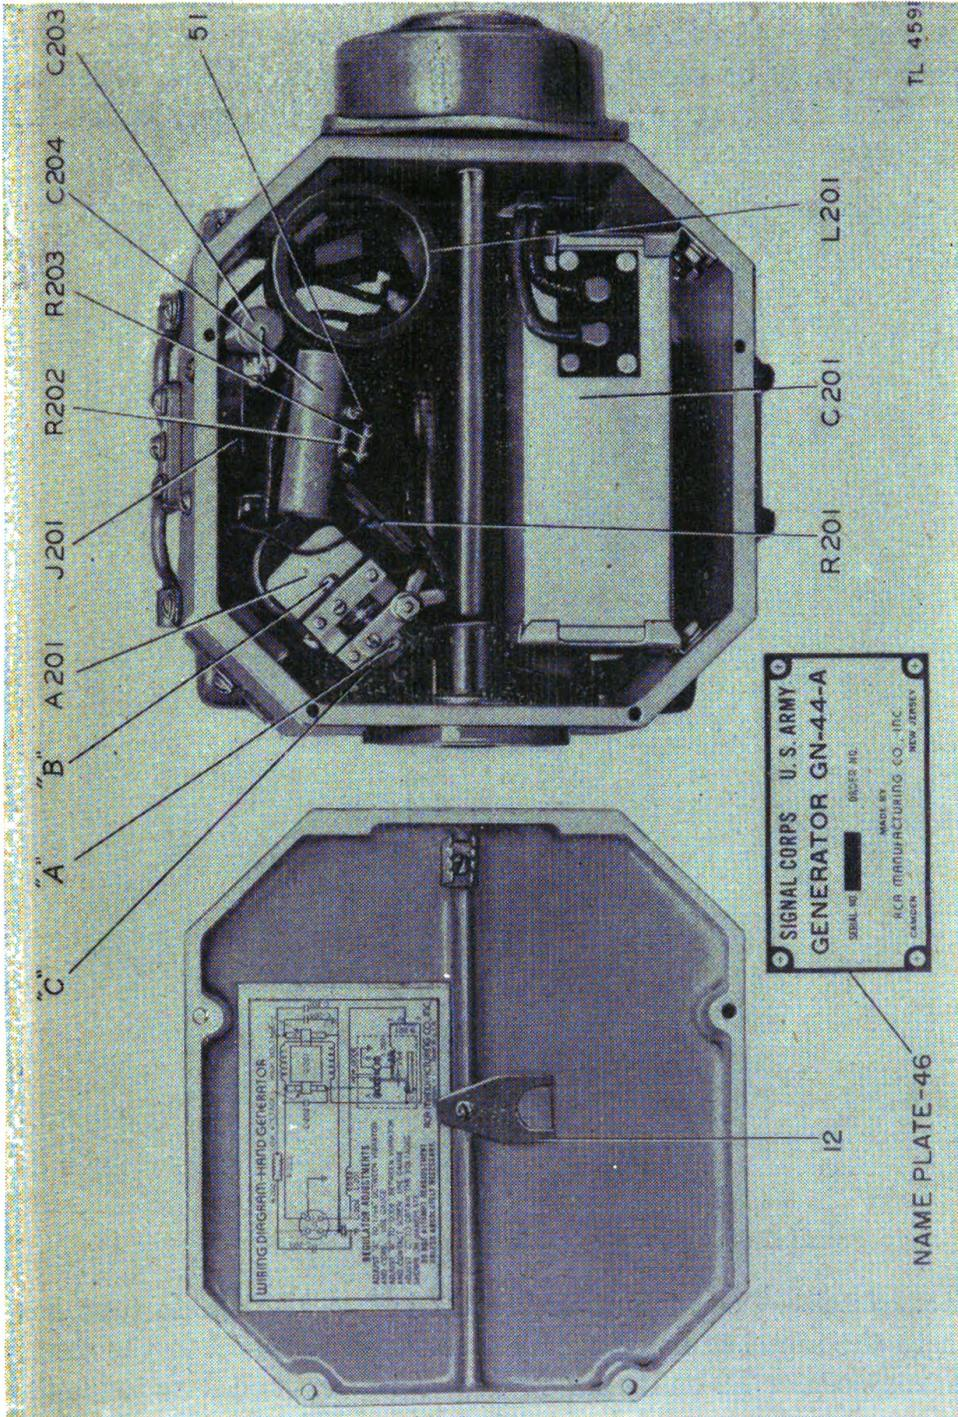

FIGURE 10.—Generator GN-44-A, cover removed—top view.
b. The top and bottom views of generator GN-44-A are shown in figures 10 and 11.